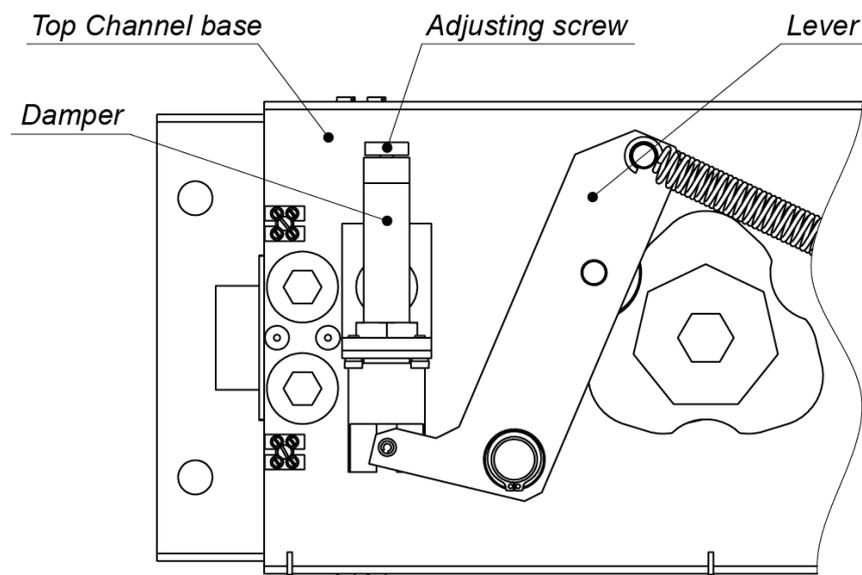

Figure 23. The turnstile damper RTD-16.2
1. Remove the cover (9) from the top channel (8) (see Sect. 6).
2. Unscrew the locking screw of the damper's adjusting screw with the hex-nut wrench SW1.5, the locking screw is situated at the end face of the adjusting screw (Fig. 23).